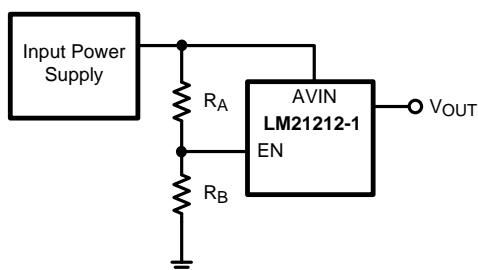

Figure 28. Enable Startup Through Vin
The enable (EN) pin of the LM21212-1 allows the output to be toggled on and off. This pin is a precision analog input. When the voltage exceeds 1.35 V, the controller will try to regulate the output voltage as long as the input voltage has exceeded the UVLO voltage of 2.7 V. There is an internal current source connected to EN so if enable is not used, the device will turn on automatically. If EN is not toggled directly the device can be preprogrammed to turn on at a certain input voltage higher than the UVLO voltage. This can be done with an external resistor divider from AVIN to EN and EN to AGND as shown below in Figure 28.